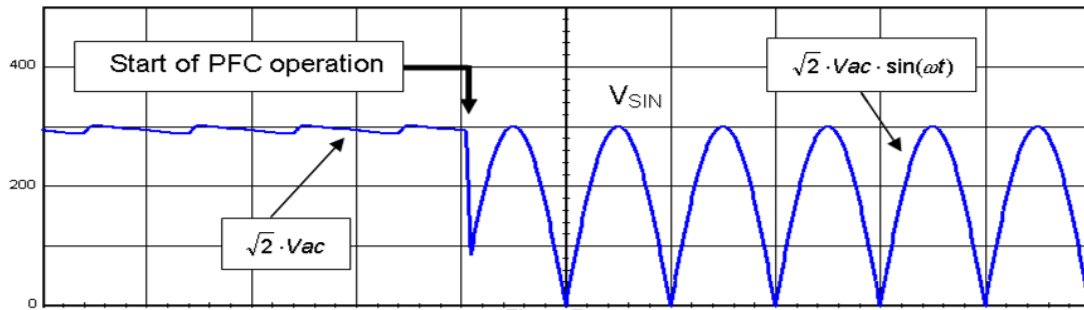

Figure 23. Typical Input Voltage of a PFC Stage
- ♦ Before operation, the PFC stage is off and the input bridge acts as a peak detector (refer to Figure 23). As a consequence, the input voltage is approximately flat and nearly equates the ac line amplitude: $v_{in}(t) = \sqrt{2} \cdot V_{in,rms}$, where $V_{in,rms}$ is the rms voltage of the line. Hence, the voltage applied to the BO pin (pin 7) is: $V_{BO} = \sqrt{2} \cdot V_{in,rms} \cdot \frac{R_{bo2}}{R_{bo1} + R_{bo2}}$.